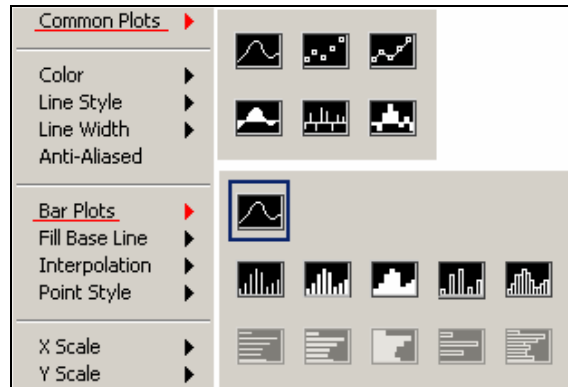

Figure 6.5: Plot Legend Options
2. **Right-Click** on the **Plot Legend** to change the type of plot, the color of the plot lines, the type of data points (useful when plotting multiple sets of data), and many other options. **Figure 6.5** shows the drop-down menu and some of the available options.